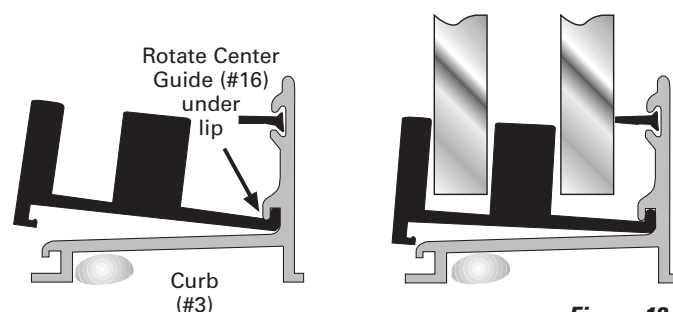

Figure 13a
D. Slide Door Panel to one side. Peel the paper backing off the two-way tape on the bottom of the Center Guide. Without letting the adhesive tape touch the Curb, carefully insert the front edge of the Center Guide into the groove on the Curb (See **Figure 13a**).
Note: **Figures 13a, b, and c** are shown with Outside Panel for reference only